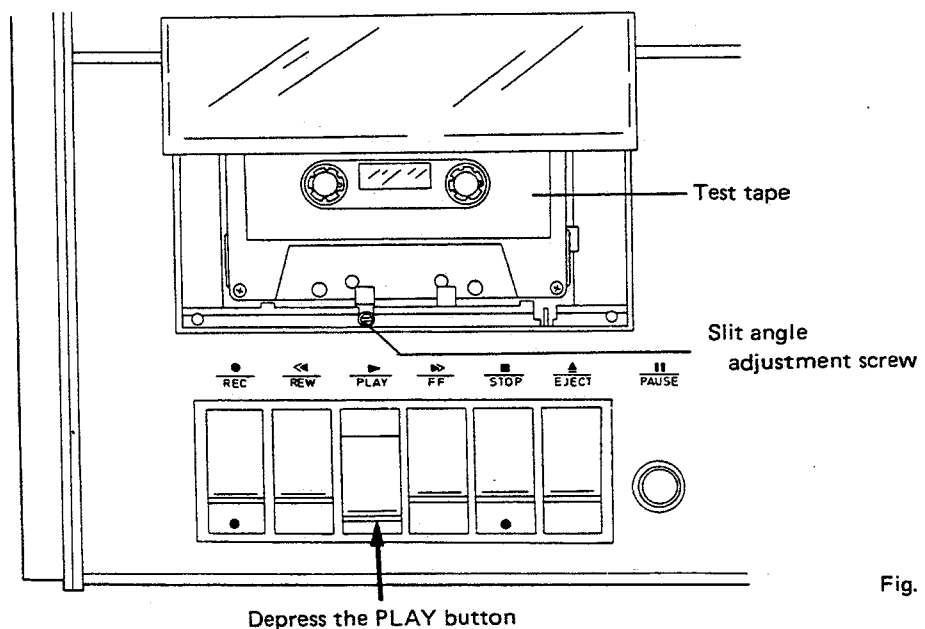

Fig. 19
7. Note that removal of the chassis from the case is not necessary in order to make this adjustment. Refer to Fig. 19.